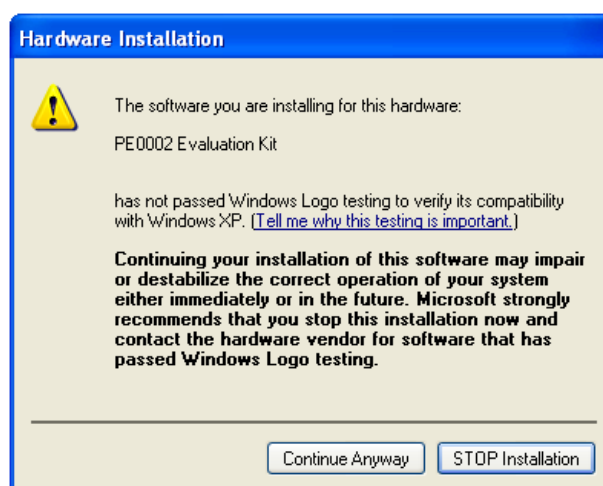

Figure 4 – USB Driver Installation Message Box
- Install the USB driver when requested. The driver is in the same folder where the 'ES9910xx.zip' files were extracted to, in '..\Driver'. Follow instructions on the screen to install the USB driver. Click the 'Continue Anyway' button when the Message Box in Figure 4 is shown.